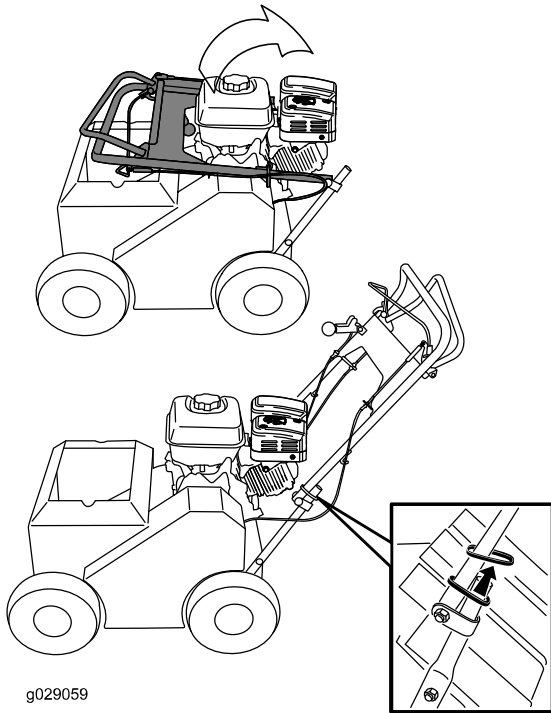

Figure 3
1. Raise the handle to the operating position (Figure 3).
2. Slide the oval locking rings down each side of the upper handle and over the lower handle (Figure 3), locking the handle sections together.